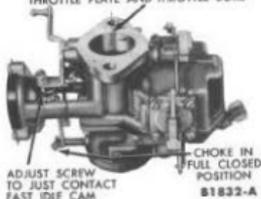

FIG. 40—Automatic Choke Fast Idle Adjustment
**AUTOMATIC CHOKE FAST IDLE ADJUSTMENTS.** Insert a gauge pin or drill of the same thickness as the specified clearance between the throttle plate and the side of the throttle bore. Hold the throttle plate against the gauge pin or drill (Fig. 40). Close the choke plate and turn the fast idle screw inward until it just contacts the fast idle cam.